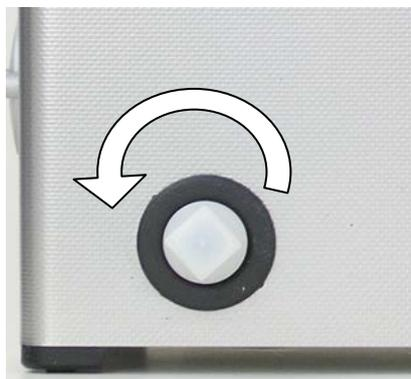

Fig. 5.1
1. Unscrew (anti-clockwise) the plastic screw cap (see fig. 5.1)